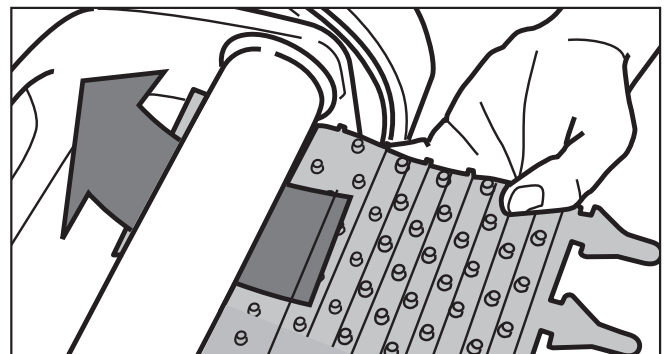

Figure 26. Position the New Brush on Roller
3. Position the new brush mat underneath the roller with the bristles facing downwards. Refer to Figure 26.